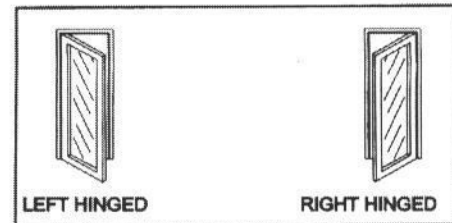

FIGURE 2
A. From outside the door, determine if your door is a right or left hinged door. **See Fig 2.**